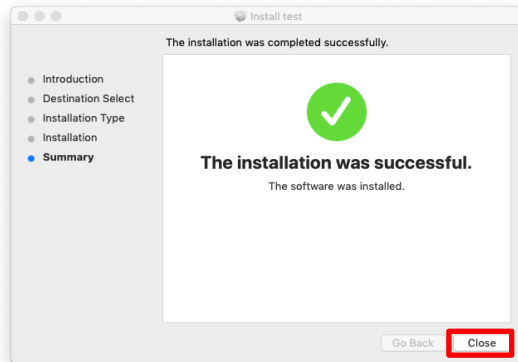

Figure 11 Installation is complete
- 3-2-2-5. When the installation is completed, the “Installation is complete” window shown in Figure 11 will be displayed. Click the "Close" button to close the window.
Figure 11 is displayed once the installation is completed. Please close the window.